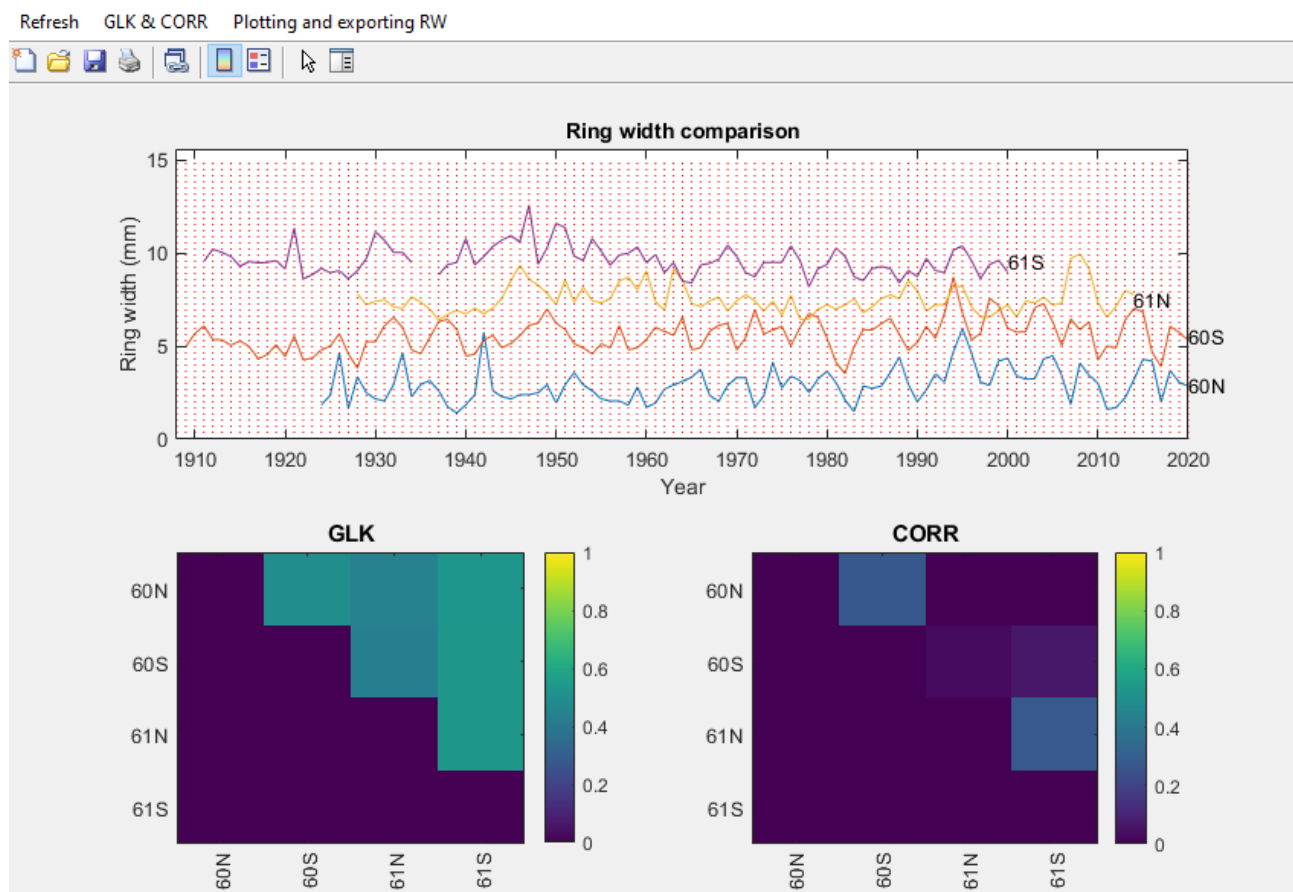

Figure 2: Screenshot of the Core Comparison module, note that the ring width series are shifted for easy visual comparison
1. **Prepare core extraction:** this is to prepare the extraction of the increment cores (see Fig. 2). It is separated from 'Mass core extraction', for actual execution of the extraction, to allow for efficient processing
- Then indicate the dark (air) and white references (Fig. 2), as many times as indicated in the Excel file. The average will be used for converting. Double click after each selection.